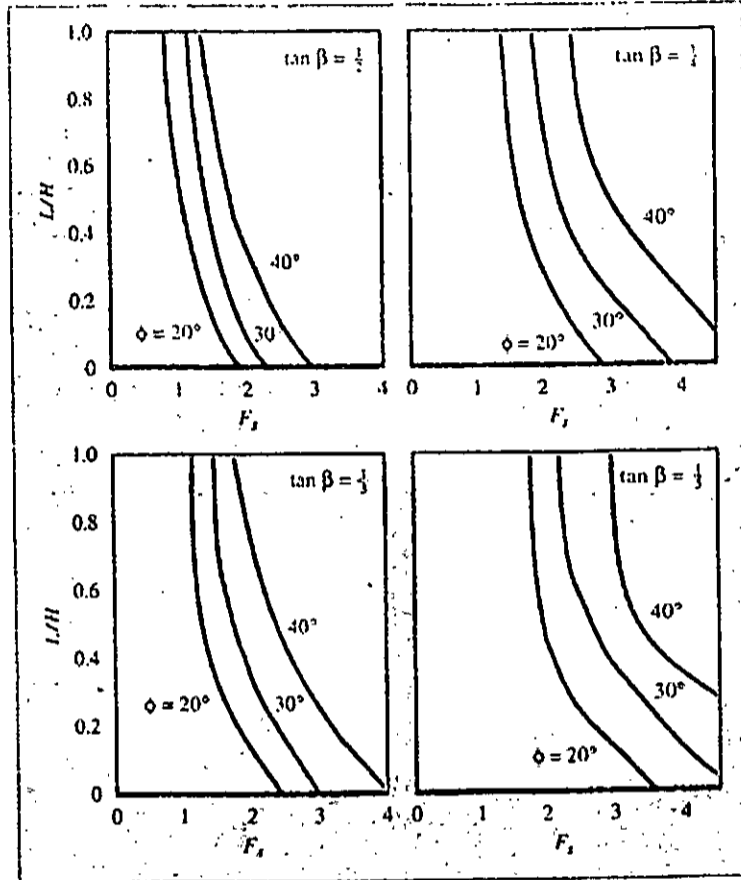

Fig. 3 Morgenstern's stability chart for  $c/\gamma H=0.05$ .
8. (a) For a river bank soil saturated unit weight is  $18 \text{ kN/m}^3$ , cohesion is 20 kPa and angle of internal friction is 40 degree. The height of the slope is 22 m and draw down is 5m. What bank slope may be provided to have a factor of safety of 2.5? Determine using Morgenstern's method of slices for rapid drawdown condition. (Morgenstern's stability chart is provided in Fig. 3) (9)